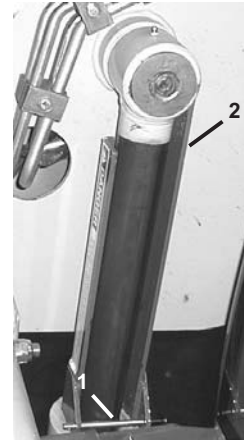

Fig. 4: Lift Arm Support Device Engaged
4. Place the support device on the left lift cylinder with the long end of the support device facing the front of the loader (Fig. 4).